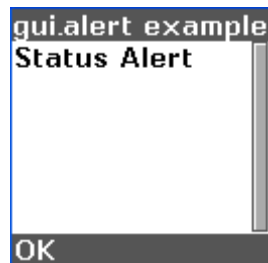

Figure 7 – `gui.alert` Example
Displays the alert shown in Figure 7 and waits until the operator presses the enter key or the left softkey (OK). Once the operator presses a key, it calls `samplefunction()` to continue.